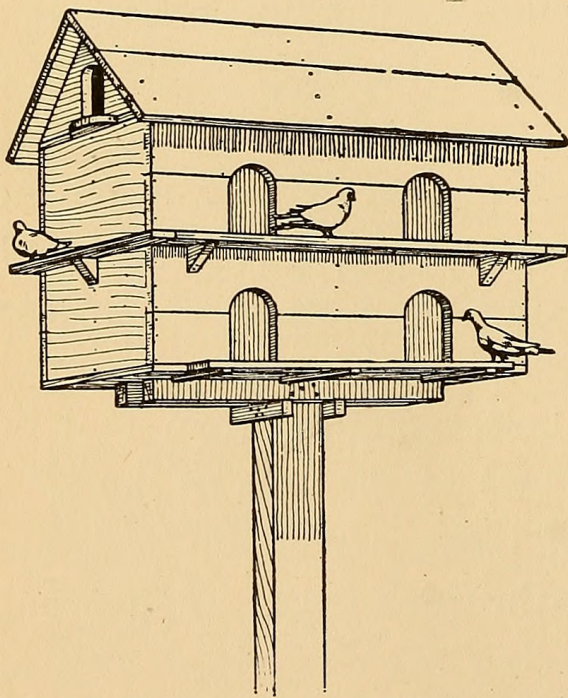

FIG. 505. — A Pigeon-cote.
**A Pigeon-cote** like the one shown in Fig. 505 may be made out of a packing-box. Divide it into two stories, by fastening a floor